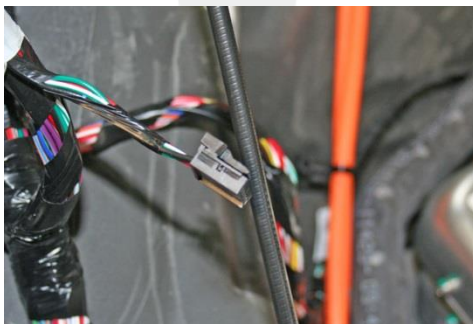

Figure 1
- If there is a 4-pin connector secured to the harness with white tape (Figure 1), continue to the “Retrofit Module Only” section.